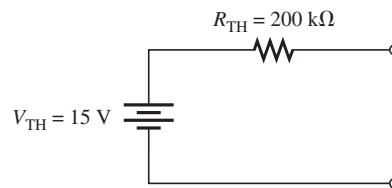

FIGURE 1-26
15. Draw a graph showing the load line for the Thevenin circuit shown in Figure 1-26. On the same graph, show the *IV* curve for a $150 \text{ k}\Omega$ resistor. Show the Q-point on your plot.